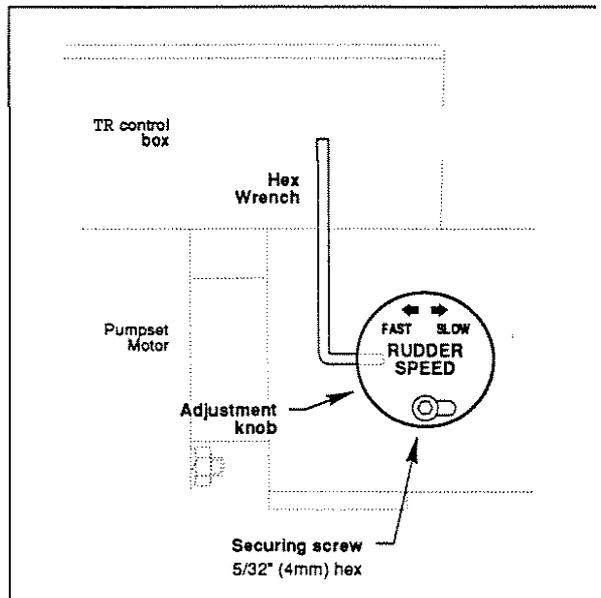

Fig. 15- Rudder Speed knob adjustment
**Pumpset Adjustment** (see fig. 15)